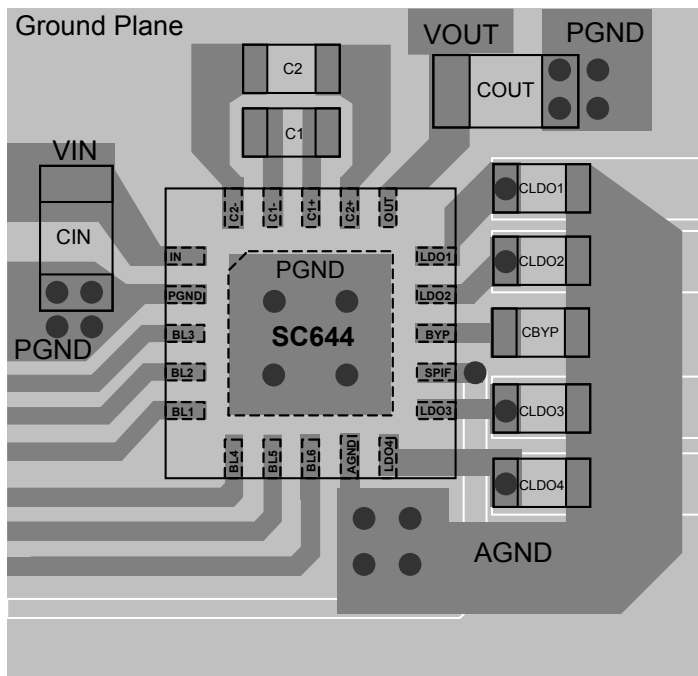

Figure 2 — Recommended PCB Layout
The layout diagram in Figure 2 illustrates a proper two-layer PCB layout for the SC644 and supporting components. Following fundamental layout rules is critical for achieving the performance specified in the Electrical Characteristics table. The following guidelines are recommended when developing a PCB layout:
- The following capacitors — CLDO1, CLDO2, CLDO3, CLDO4, and CBYP should be grounded together. Connect these capacitors to the ground plane at one point near the AGND pin as shown in Figure 2.